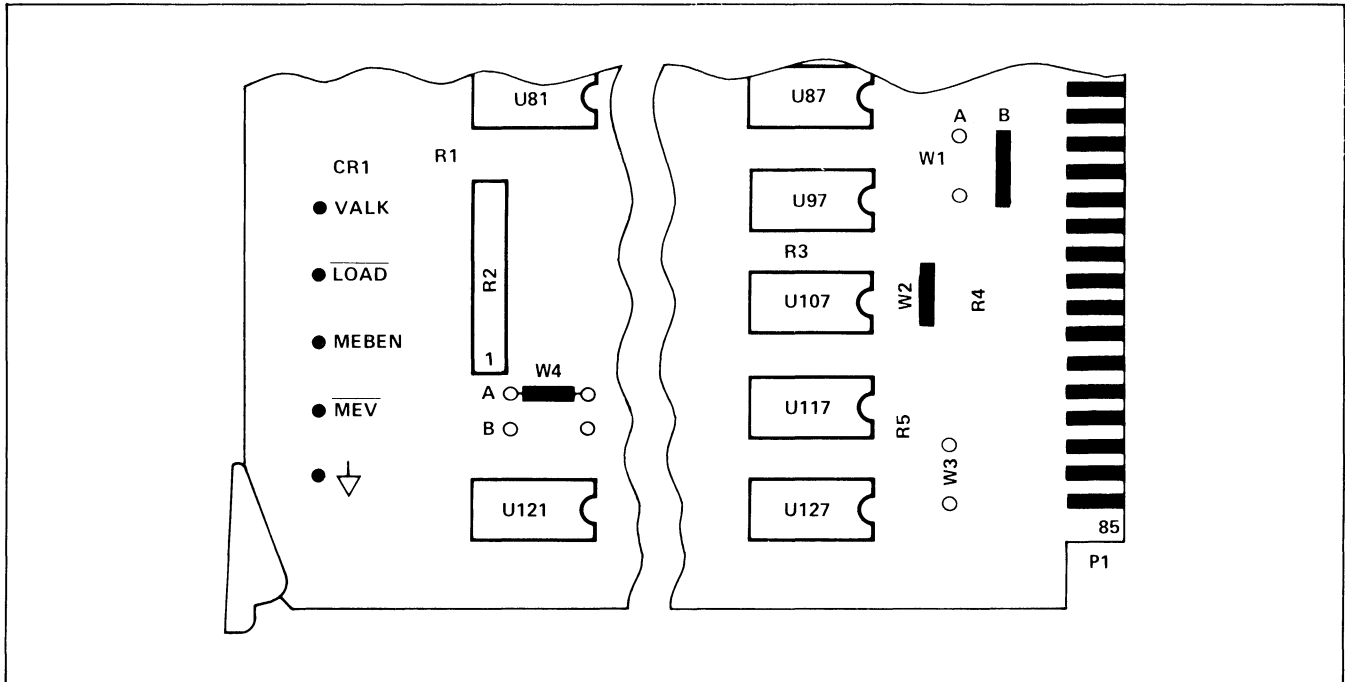

Figure 4-1. MEM Configuration Jumpers
- On MEM, ensure that jumpers W1 through W4 are configured as shown in figure 4-1. The functions of these jumpers are described in table 4-1.